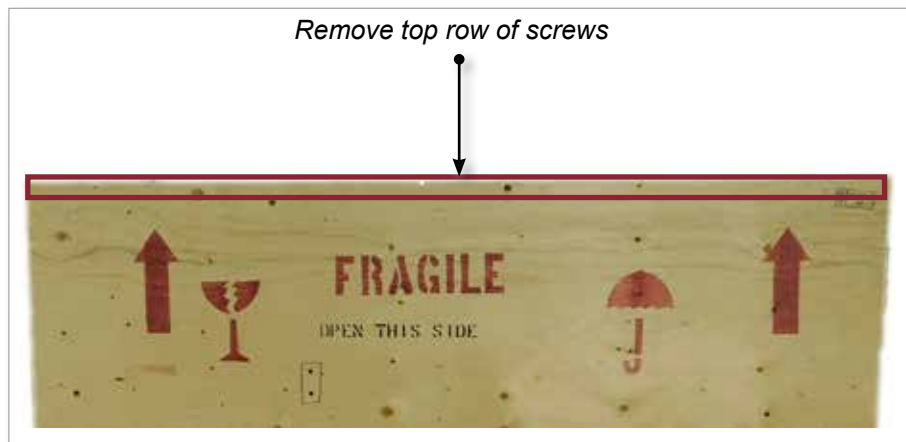

Figure 3-6 Remove top row of screws
2. Remove top row of screws from the long side of the crate. See Figure 3-6.